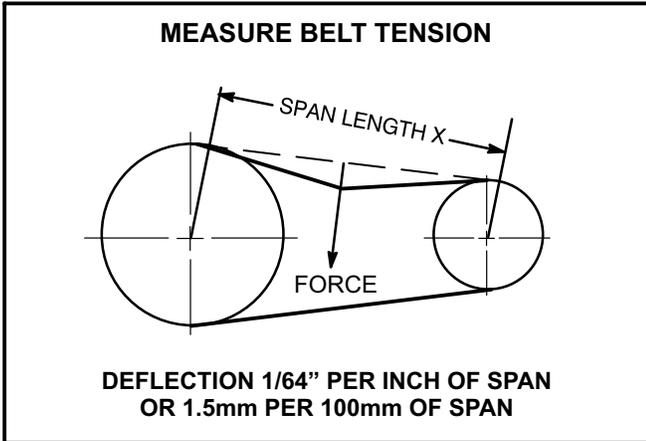

FIGURE 16
- 1- Measure span length X. See figure 16.